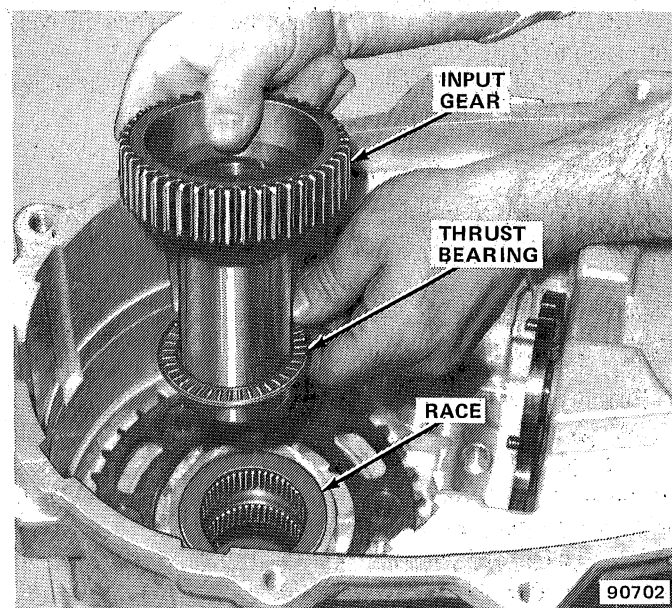

Fig. 2D-62 Input Gear and Thrust Bearing Removal/Installation
(1) If bearing cannot be removed by hand, remove it using Slide Hammer J-2619-01 and Remover J-29369-1 or similar internal type blind hole bearing puller (fig. 2D-33).
(2) If necessary, install new bearing using Driver Handle J-8092 and Installer J-29174. Be sure bearing is flush with bore (fig. 2D-34).
(1) Remove snap ring and remove bearing using rawhide mallet or brass punch.
(2) Install new bearing using Tools J-8092 and J-7818 (fig. 2D-25).